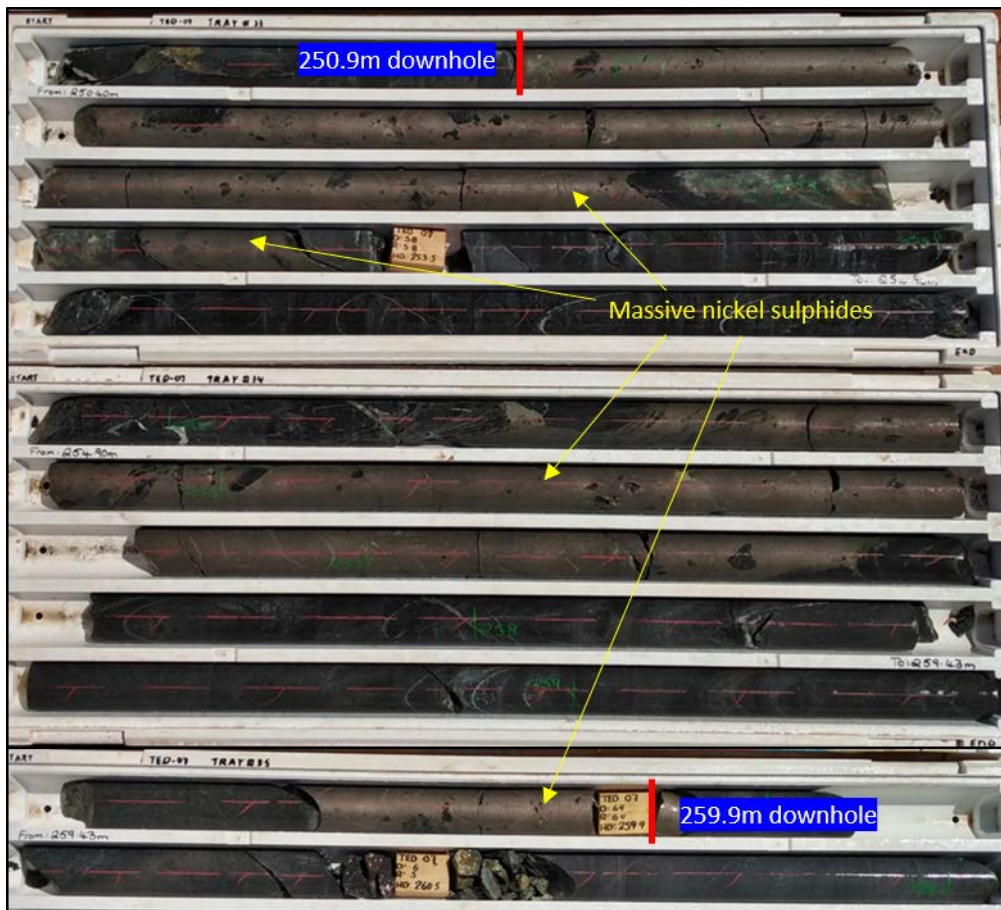
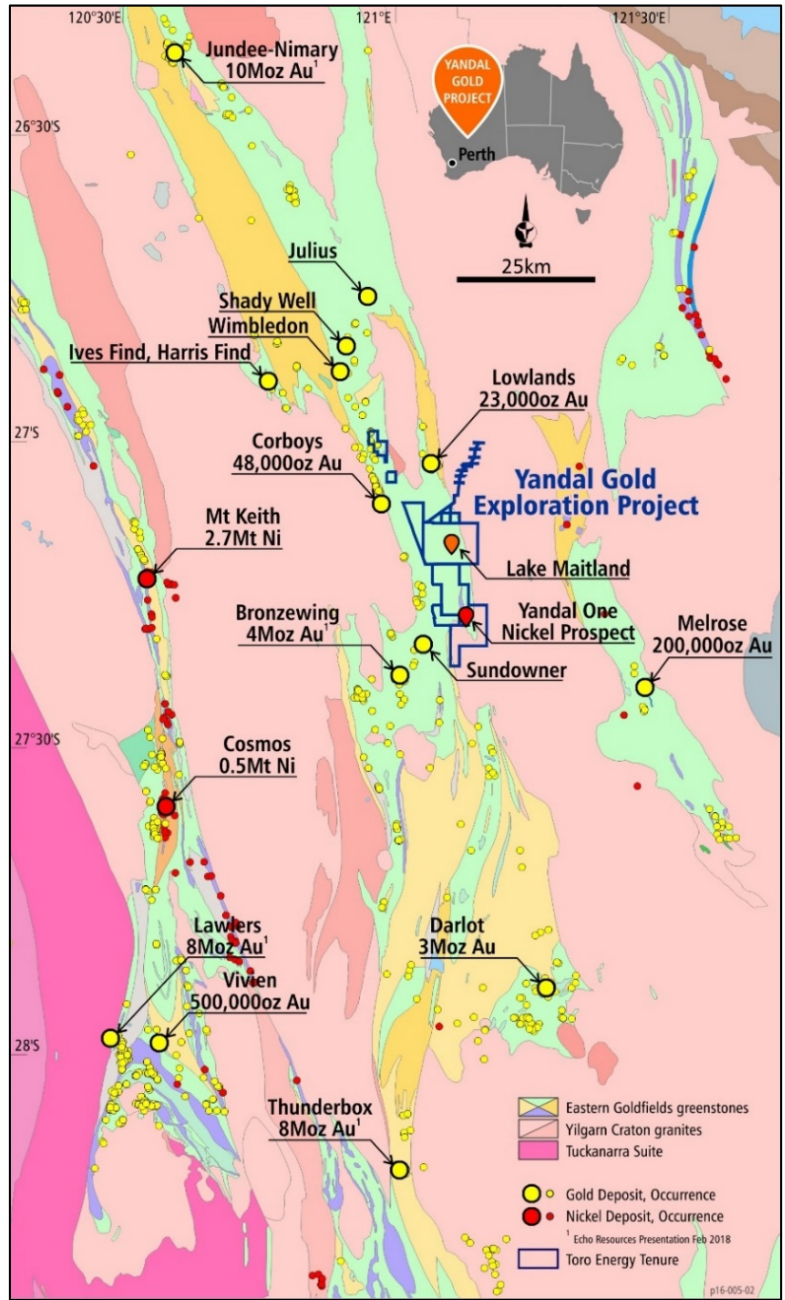

Figure 1: Photo of massive nickel sulphide intersections in diamond hole TED07 at the Dusty nickel sulphide discovery.
Figure 5: Location of Toro's Yandal Gold Project.
- 4.5M CUMULATIVE OF MASSIVE NICKEL SULPHIDES HAS BEEN INTERSECTED OVER A 9M ZONE OF SULPHIDE MINERALISATION IN DIAMOND DRILL HOLE TED07 FROM 250.9M DOWNHOLE (FIGURE 1).
Toro Energy Limited (**ASX: TOE**) ('the **Company**' or '**Toro**') is very pleased to announce another significant intersection of massive nickel sulphides at the Dusty nickel sulphide discovery, with 4.5m cumulative of massive nickel sulphides intersected over a 9m zone of sulphide mineralisation in diamond drill hole TED07 from 250.9m downhole (refer to **Figures 1 and 2**). The Dusty discovery is located on the Company's 100% owned Yandal Gold Project ('the **Project**') (refer to **Figures 3 and 4**). The Project is located in the Yandal Greenstone Belt, some 50km east of the world class Mt Keith Nickel Deposit and 15km NE of the world class Bronzewing Gold Mine (**Figure 5**).
TED07 was positioned in the same location as TED04 and TED06 (see further details below and **Figure 3**), but angled steeper at 80 degrees in order to meet target depth efficiently. TED07 intersected a 9m zone of sulphide mineralisation from 250.9m downhole at the base of the komatiite rock unit, which included 4.5m cumulative of massive nickel sulphides as outlined in **Figures 1 and 2**, starting at the top of the sulphide rich zone. Hand-held portable XRF (**hh-pXRF**) analysis at multiple locations within the massive sulphide zones returned nickel grades of between 2.04 and 7.80% nickel (refer to **Appendix 2** for details of hh-pXRF analysis), however this will need to be verified by geochemical analysis.